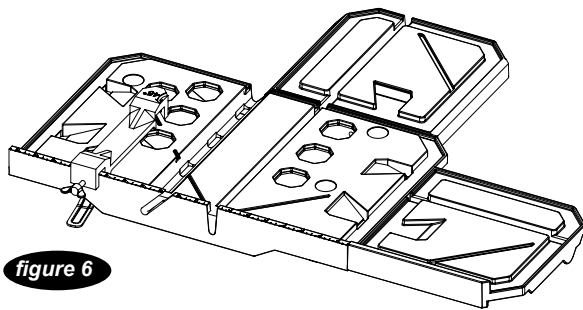

figure 6
- The ruler guide has inches marked along the top to allow convenient measurements and to promote precision cuts. (see **figure 6**)